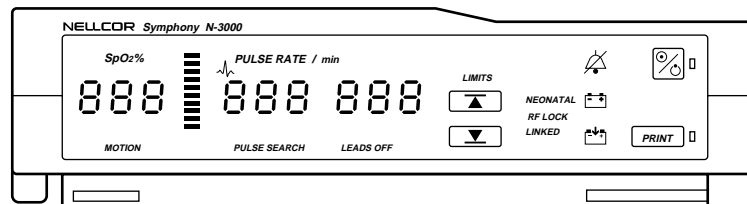

Figure 3-1: Self-Test Display
- b. All indicators light for a few seconds as illustrated in Figure 3-1. Verify that the SpO₂% (left-most display), PULSE RATE (middle), and AUXILIARY (right) displays all indicate “8.8.8.”.